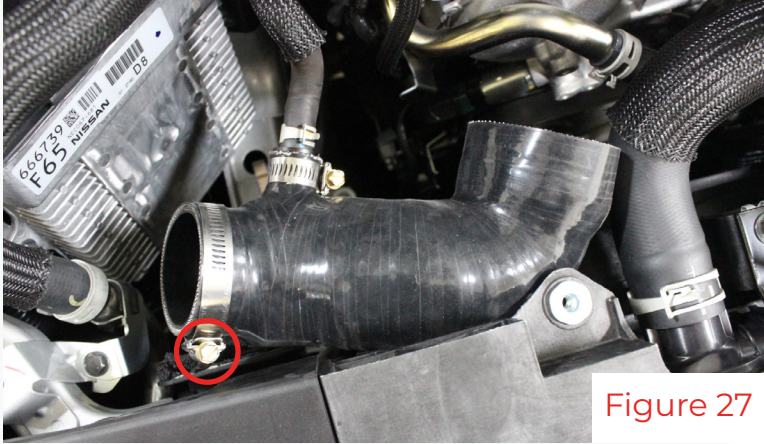

Figure 27
14. Continuing with the passenger side, locate the passenger silicone from step 9 and a #32 clamp. Using figures 27 & 28 position the clamp accordingly, reconnect the PCV hose and install it on the turbo inlet. Leave it loose for clocking in the next step.